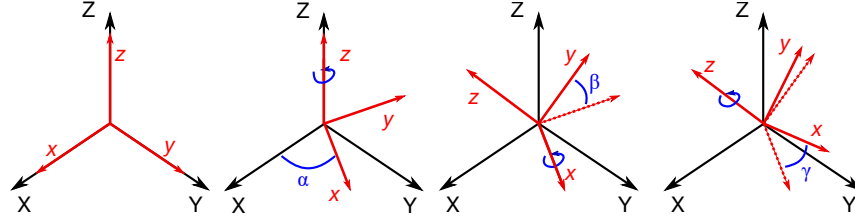

Figure 7-5. A rotation represented by Euler angles (α, β, γ) using $\mathbf{Z}(\alpha)\mathbf{X}(\beta)\mathbf{Z}(\gamma)$ intrinsic rotations.
2. **Local coordinate systems.** It is possible to have the ICFD parts or ICFD_PART_VOLs rotate around the global reference frame but also to define and use a local reference frame by defining its point of origin and two of its vectors $\mathbf{v}_1 = (X1, Y1, Z1)$ and $\mathbf{v}_2 = (X2, Y2, Z2)$ (note that \mathbf{v}_1 and \mathbf{v}_2 should be orthogonal). The third vector is, then, in the direction of $\mathbf{v}_1 \times \mathbf{v}_2$. See Figure 7-5.